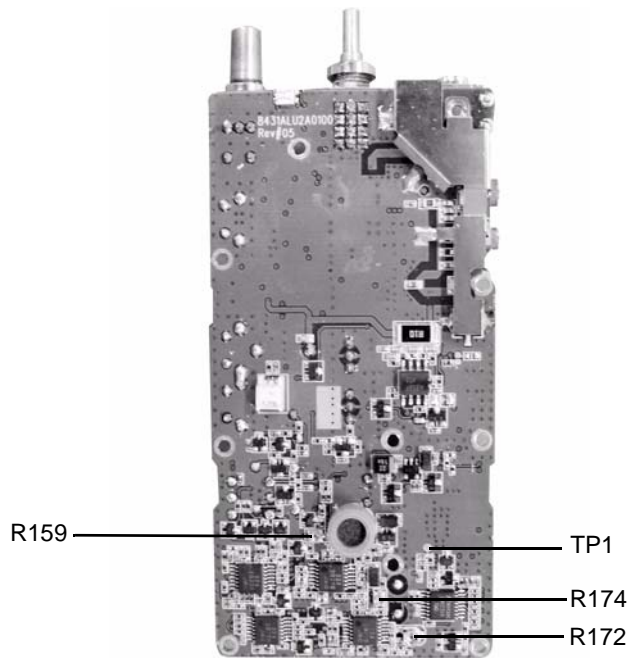

Figure 3-3 Top Side of PCB
6. Using the ceramic tool, adjust R174 to tune to 100% of the maximum deviation (refer to Figure 3-3).
5. Using the ceramic tool, adjust R159 to tune maximum modulation between 2.4 ± 0.02 KHz for narrow band or under 5KHz for wide band (refer to Figure 3-3).
5. Using the ceramic tool, adjust R172 to tune subtone modulation between 0.42 ± 0.02 KHz at narrow band. (refer to Figure 3-3)
2. Detect output voltage at test point TP1 (refer to Figure 3-3).